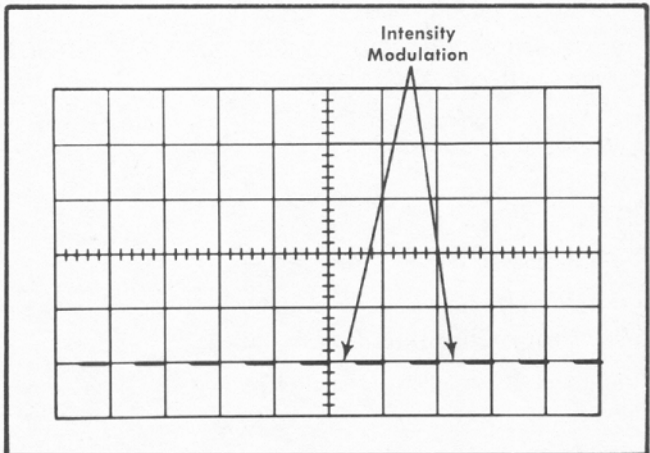

Fig. 6-56. Typical crt display showing intensity modulation (A Sweep externally triggered for stable display).
- g. Check—Crt display for noticeable intensity modulation (see Fig. 6-56). (INTENSITY setting may have to be reduced to view trace modulation.)